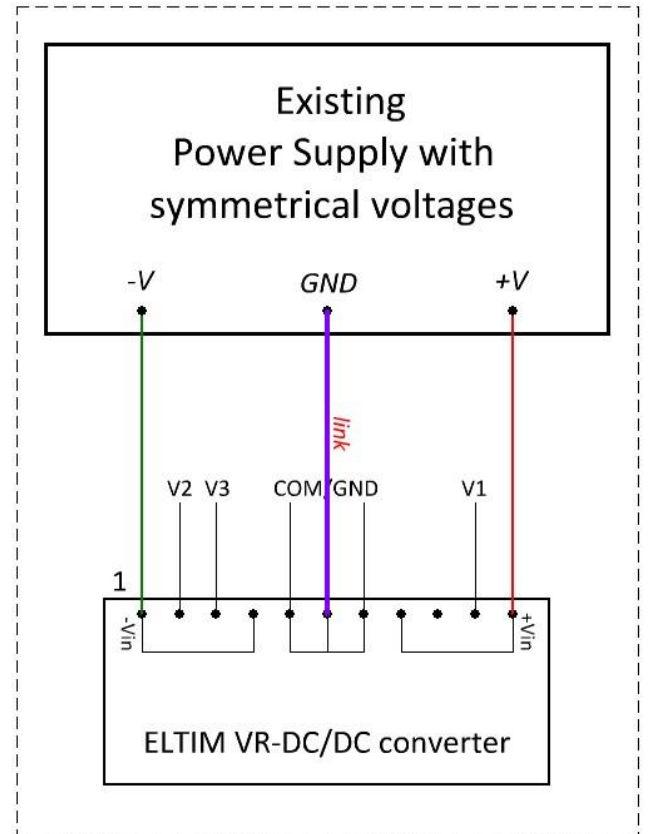

Fig 2: Symmetrical host supply, with common ground
- For symmetrical host supplies: Just connect **GND** of the host to **COM** of our module (Fig 2) as seems logical. While using our symmetrical Power Supply modules, we already made this link on the PS-board. Just mount this VR-RDC30 module on the header location on the PS-module and all works.